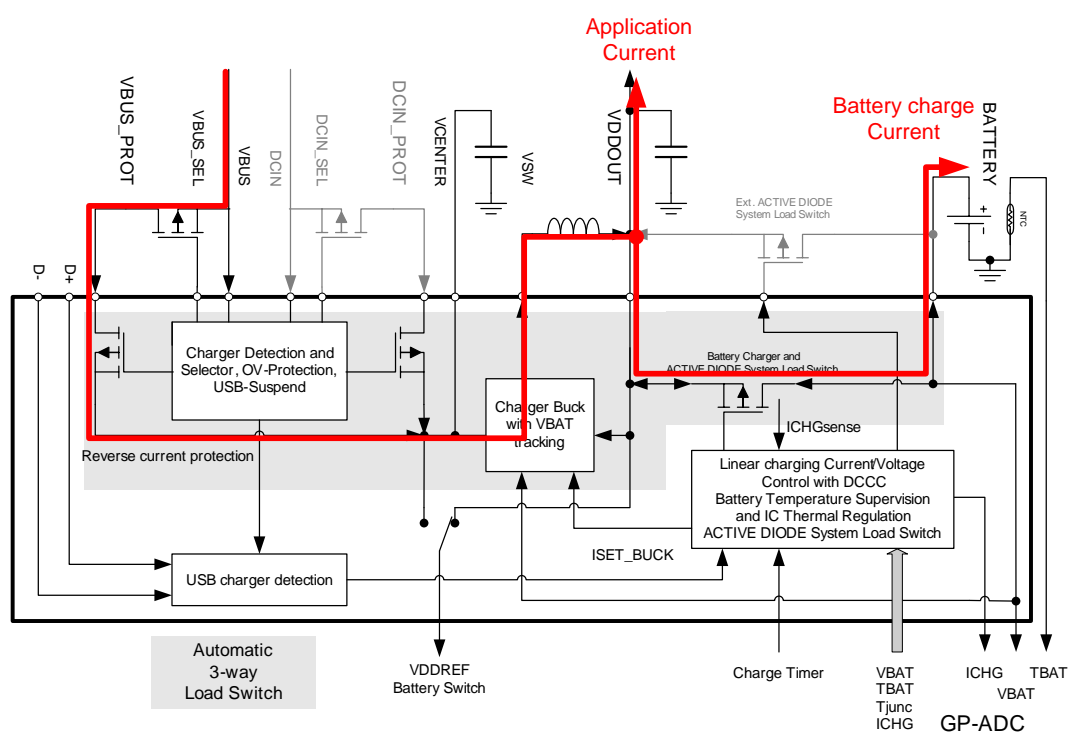

Figure 9: I_{SET_BUCK} value is higher than (Application + Charging) current
- A. If the combined load does not exceed the input current limit I_{SET_BUCK} , then the charger buck delivers the needed load current without restrictions. In addition, the VDDOUT voltage will be regulated to 250 mV higher than VBAT to minimize the power consumption of the linear charger stage (see Figure 9).